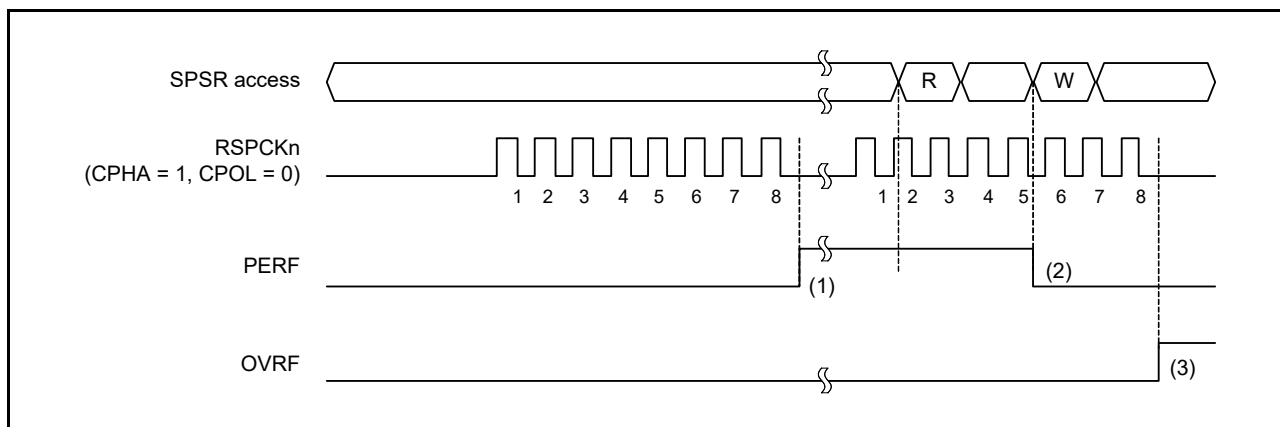

Figure 32.35 Operation example of the OVRF and PERF flags
Figure 32.35 shows an example operation of OVRF and PERF flags. The SPSR access shown in Figure 32.35 indicates the condition of access to the SPSR register, where W denotes a write cycle, and R a read cycle. In the example in Figure 32.35, full-duplex synchronous serial communication is performed while the SPCR.TXMD bit is 0 and the SPCR2.SPPE bit is 1. The SPI performs an 8-bit serial transfer in which the SPCMDm.CPHA bit is 1 and the SPCMDm.CPOL bit is 0. The numbers given for RSPCKn in the waveform represent the number of RSPCK cycles, meaning the number of transferred bits.
The operation of the flags at the timing shown in (1) to (3) in Figure 32.35 is as follows:
- (1) If a serial transfer terminates with the SPI not detecting an overrun error, the SPI copies data in the shift register to the receive buffer. The SPI checks the received data at this timing and sets the PERF flag to 1 if a parity error is detected. In master mode for SPI0, the SPI copies the value of the SPCMDm pointer to the SPSSR.SPECM[2:0] bits.
- (2) If 0 is written to the PERF flag after the SPSR register is read when the PERF flag is 1, the PERF flag is set to 0.
- (3) When the SPI detects an overrun error and serial transfer is terminated, data in the shift register is not copied to the receive buffer. The SPI does not perform parity error detection at this time.